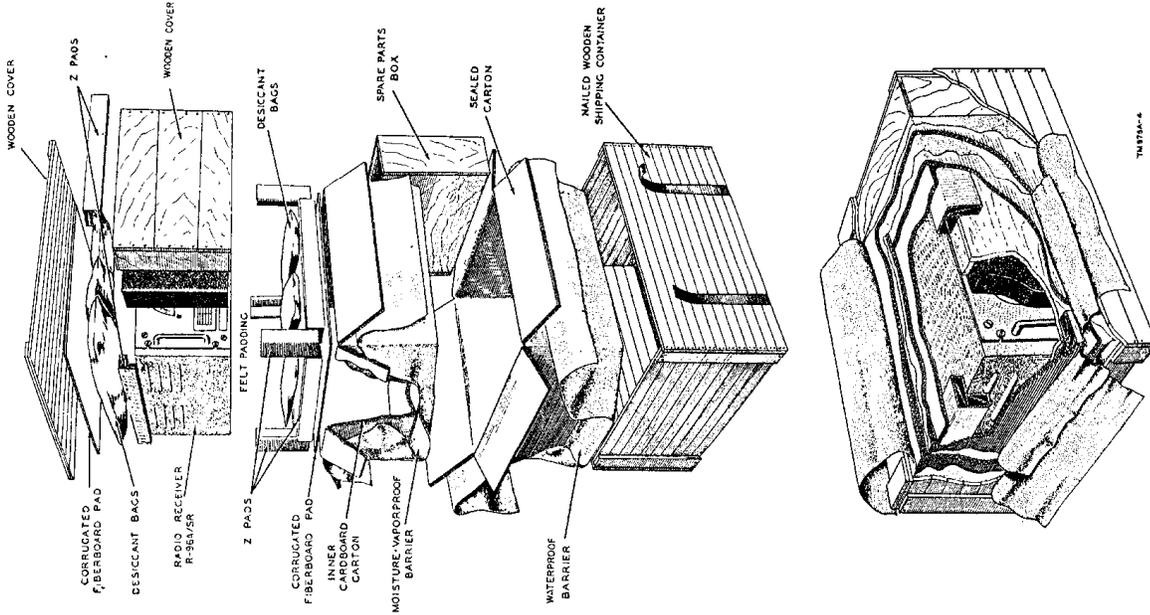

Figure 6. Packaging and packing Radio Receiver R-96A/SR.
a. DESCRIPTION. Radio Receiver R-96A/SR is packed in a nailed wooden shipping container; the size is listed in *b* below. Running spare parts are packed in an additional metal container, which in turn is packed in the large wooden box containing the receiver. The receiver is packed for export shipment as shown in figure 6. Z-pads and a wooden cover plate surround the receiver along with six silica gel pads. These are packed in a corrugated fiberboard inner carton which is sealed. This carton then is placed in a moisture-vapor-proof barrier, which in turn is sealed and placed in an outer fiberboard carton. The outer fiberboard
Caution: This radio receiver and the spare parts may be easily damaged during the unpacking process. Be extremely careful not to drop or damage the units. Avoid thrusting pinch bars or any other unpacking tools, such as a screw driver, into the interior of any fiberboard shipping container. Do not unpack in a location where dust, dirt, or excessive moisture may affect the equipment. Follow closely the unpacking instructions given below. Figure 6 illustrates the packing of Radio Receiver R-96A/SR and its spare parts box.